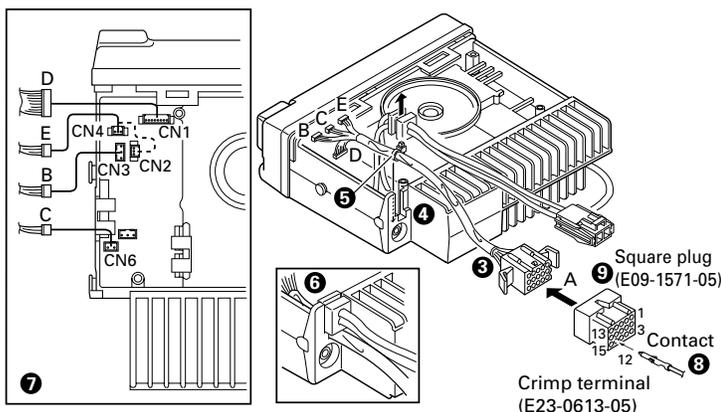

Fig. 2
4. Replace the DC cord bushing (❻).
5. Connect the KCT-19 to the TX-RX unit (A/2) as shown in Figure 2 (❼).
6. Connect the KCT-19 to the external accessory by inserting the crimp terminal (❸) into the square plug (❾), both of which are supplied with the KCT-19.